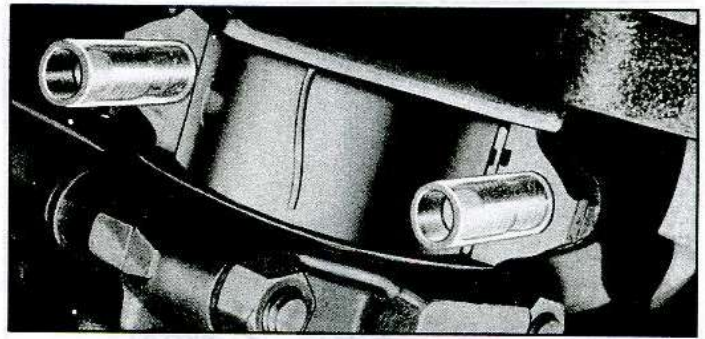

Fig. 123—Gauging Plastic on Crankpin
3. Place a piece of Plastigage or its equivalent the full width of the bearing or crankpin, parallel to the crankshaft (fig. 123).